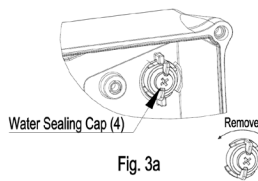

Fig. 3a
2. With cover off, remove the (4) water seal caps by turning a quarter turn, counterclockwise. See Fig. 3a.